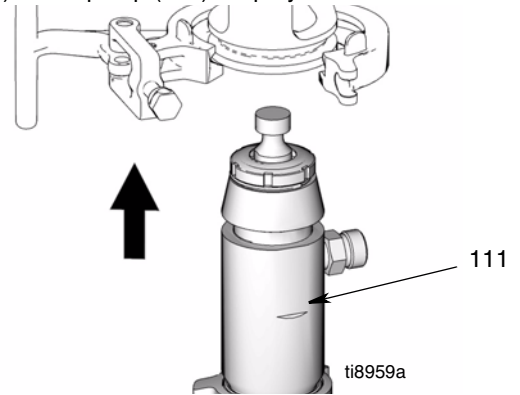

FIG. 21
2. (Fig. 21) Install pump (111) in sprayer.